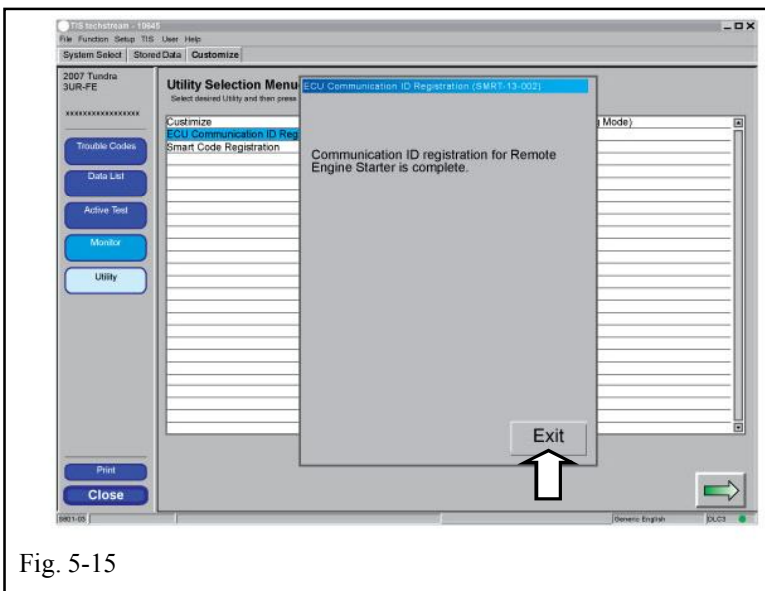

Fig. 5-15
- (cc) Click “Exit.” (Fig. 5-15)